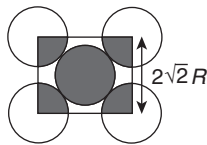

Figure 14 Packing in fcc.
2. **Face-centered cubic (fcc) arrangement:** For such an arrangement, along each face one sphere touches two others along the diagonal, as shown in Figure 14.